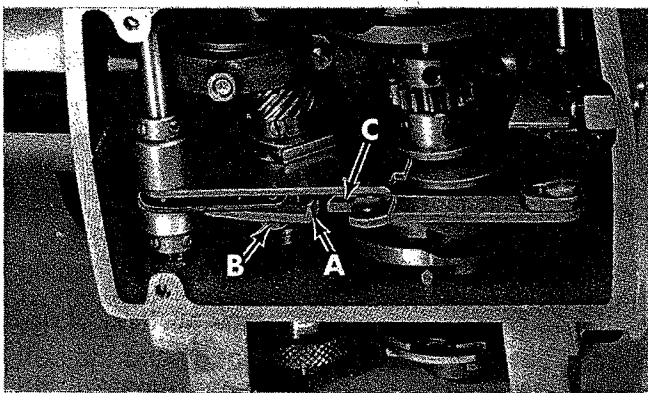

Fig. 48
The function of the safety stop (A, Fig. 48) is to prevent engaging the machine into RUN POSITION should the button holder fail to place the button at the proper sewing position.
Machine is in STOP POSITION and a button is in position to be sewn. Tilt the machine on its side. Loosen hex head bolt (B, Fig. 48) and position safety stop (A) so that its leading (stepped) edge is slightly to the front of link (C) as shown.